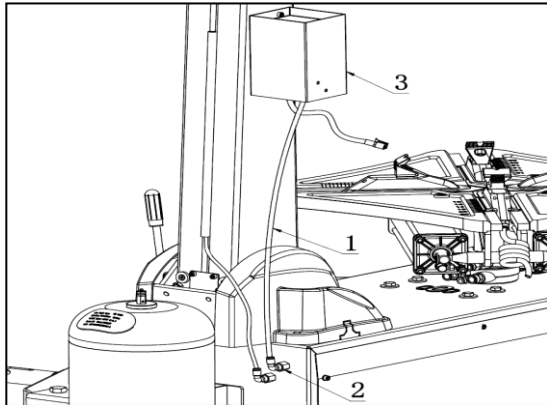

FIG13
- ✧ Install the inflation gauge (FIG13-3): fix it to the installation hole at the side of column using two pcs M6 screws(GB70-85). Then connect the ϕ 8 hose (FIG13-1) on inflation gauge to the elbow (FIG13-2) on the machine body back (FIG13).